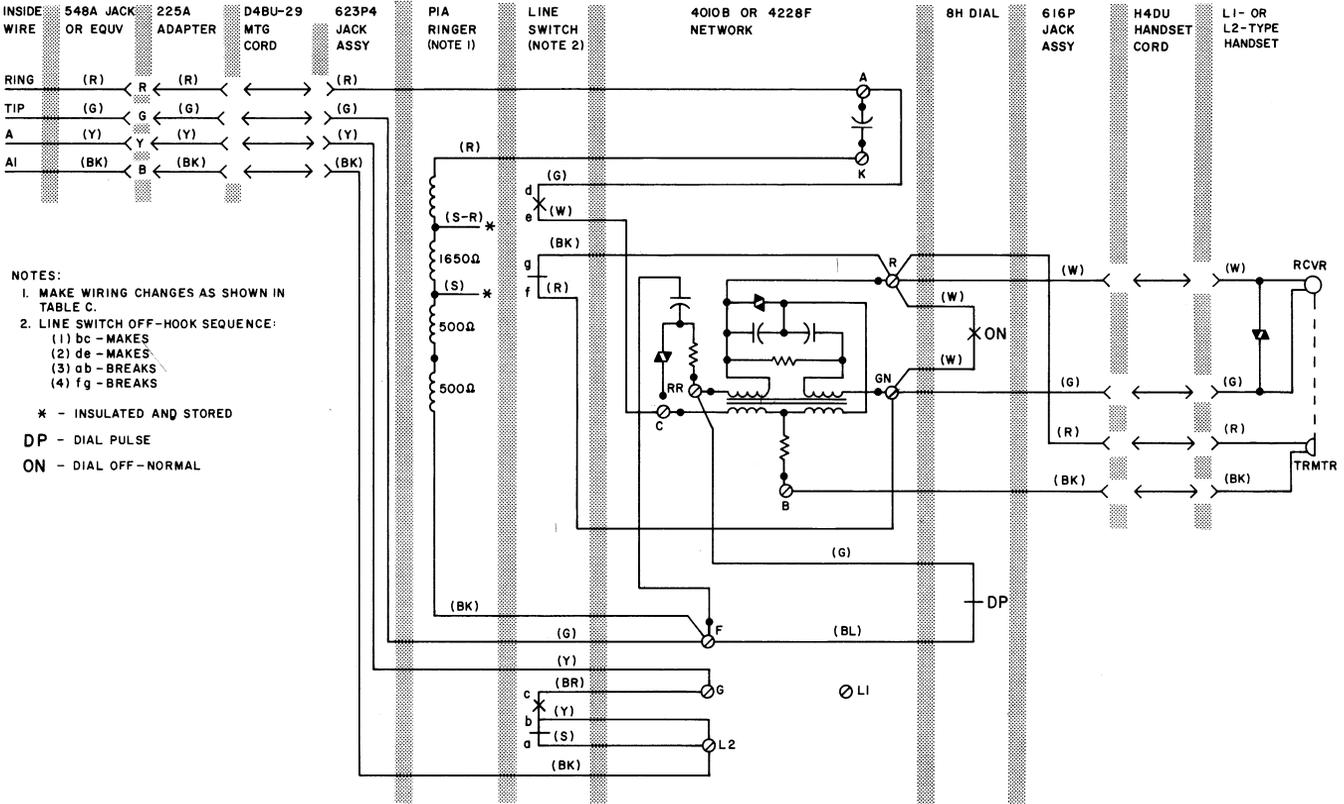

Fig. 8—940-Type Telephone Set Connections, Wired for 1A1 or 1A2 KTS
**3.04** Connections for use with 1A1 or 1A2 KTS are shown in Fig. 8. Table C includes necessary wiring modifications required for 1A1 or 1A2 key telephone system use.